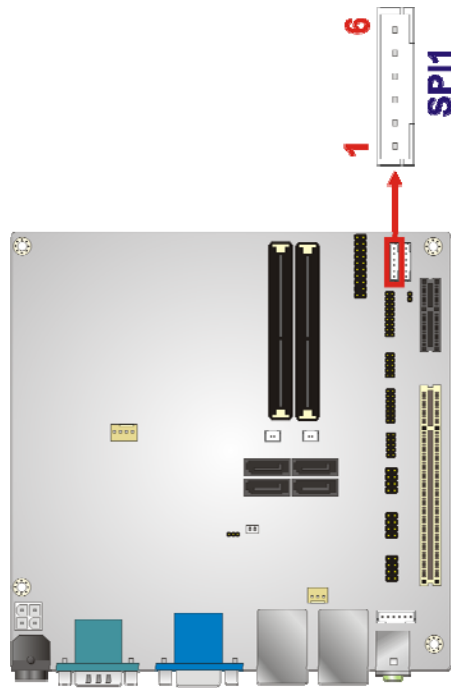

Figure 3-3: BIOS Update Connector Location
- CN Location:** See **Figure 3-3**